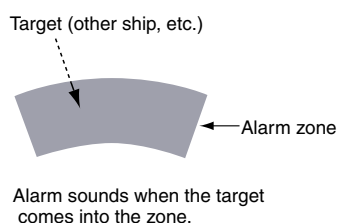

Fig. 3
- ① Push [MENU] to call up the FUNCTION menu.
- ② Push [v] until the “ZONE ALARM” section becomes highlighted.
- ③ Push [<] / [>] to select IN or OUT
- IN : Alarm sounds when the target comes into the zone. (Fig. 3)